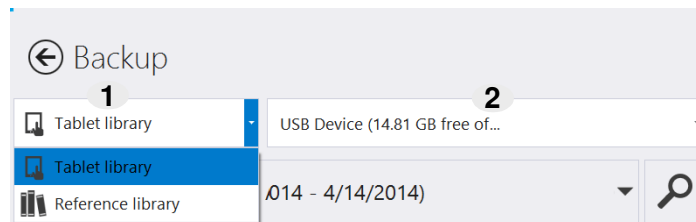

Figure 9-7: (1) Library button, and (2) Destination Storage Device button.
3. Tap the Library button (see Figure 9-7). A list of destination libraries displays:
4. Tap the Destination Storage Device button (see Figure 9-7). A list of connected storage devices displays. Tap the intended device.